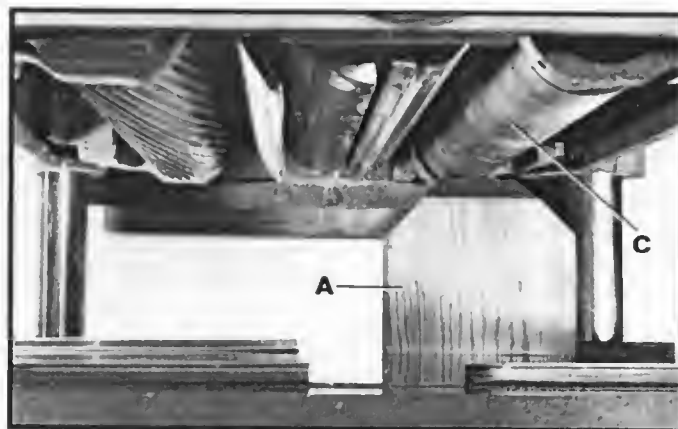

Fig. 40
4. Move the gage block (A) Fig. 40, minus the feeler gage, under the **left end** of the outfeed roll (C), as shown. The bottom of the outfeed roll (C) should just touch the top of the gage block (A).